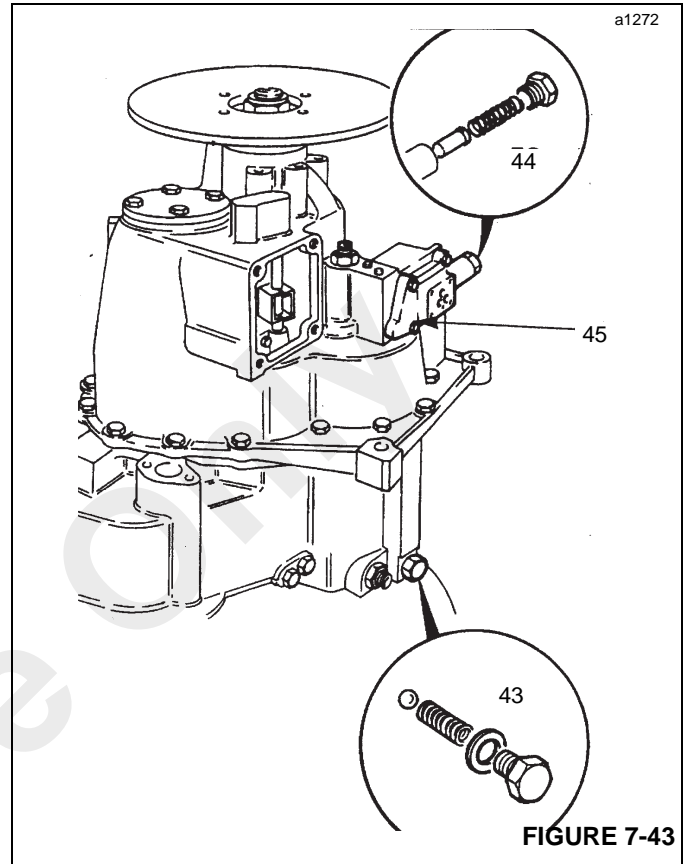

FIGURE 7-43
43. Install the torque converter pressure relief valve ball and spring (43, Figure 7-43). Ensure that the large diameter of the spring is located securely over the shaft on the plug. Use a new sealing washer, apply Loctite 243 to the plug and then tighten.
44. Assemble pressure maintaining valve spool with NEW spring and plug (44) into adapter block. Install and tighten the plug. **Do not overtighten** as damage to the aluminum housing could occur. See parts manual for correct parts.
45. Using a new gasket, install the pressure maintenance valve (45) onto the casing. Use 12.9 grade capscrews (encapsulated), and tighten to a torque of 10 Nm (7.4 lb-ft). When the capscrews are not encapsulated, apply Loctite 243 to the threads.